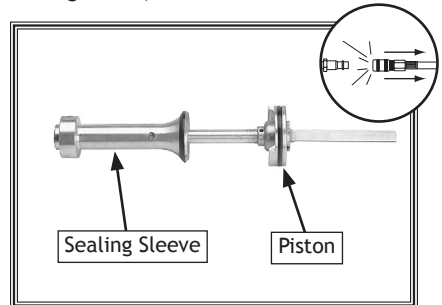

Figure 10. Piston assembly.
- Pull the piston from the sleeve (see Figure 10).